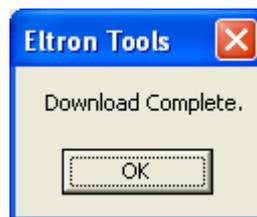

Figure 17: Final message when downloading the logo
2. On the **Download** tab, select graphic download and use the **Select File** button to select a file in the .PCX format. The name of the graphic is **LOGO**. Click the **Download File** button. When the download is complete, the message *Download complete* is displayed (Figure 17).